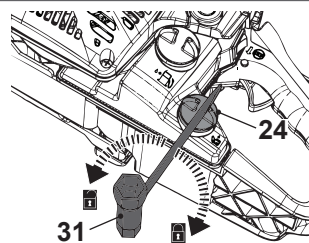

Fig. 16
1. Place the product on a stable, level surface with the chain oil tank cap (24) facing upward. We recommend laying a non-flammable sheet under the product.
2. Unscrew and remove the oil tank cap (24) (Fig. 16).
4. Wipe up spilled lubricant with a soft cloth and refit the oil tank cap (24). Use the multi-tool (31) to tighten the cap properly (Fig. 16).